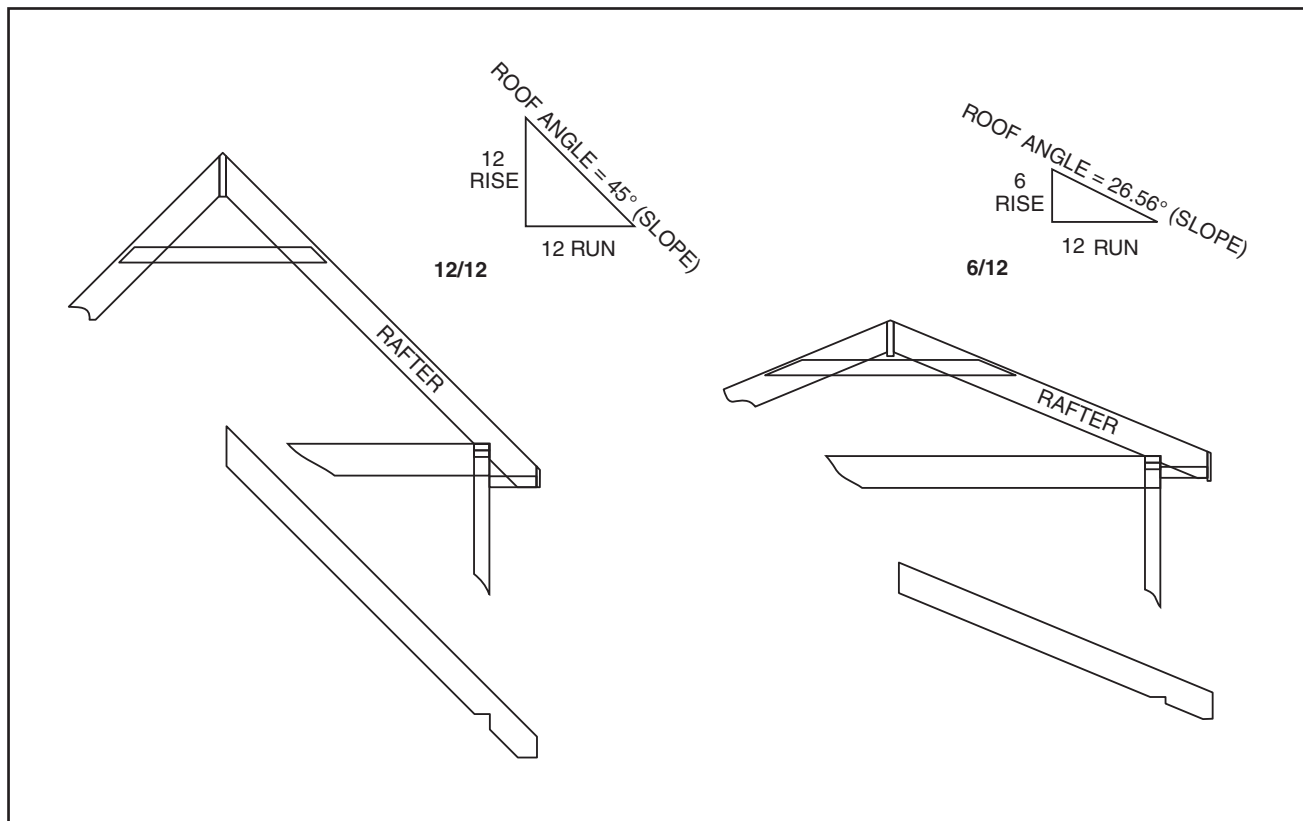

Figure 45. Pitch Angle Cutting – Common Roof Rafters
**Pitch angle information** – The top section of the miter scale shows angle settings required to cut roof rafters to the “Pitch Angle” system. 2/2, 4/12, 6/12, etc., are all pitch angles. This system is based on using the English “inches.” A 6/12 pitch angle roof equals a ratio of 6” “rise” for every 12” “run” (see Figure 45).